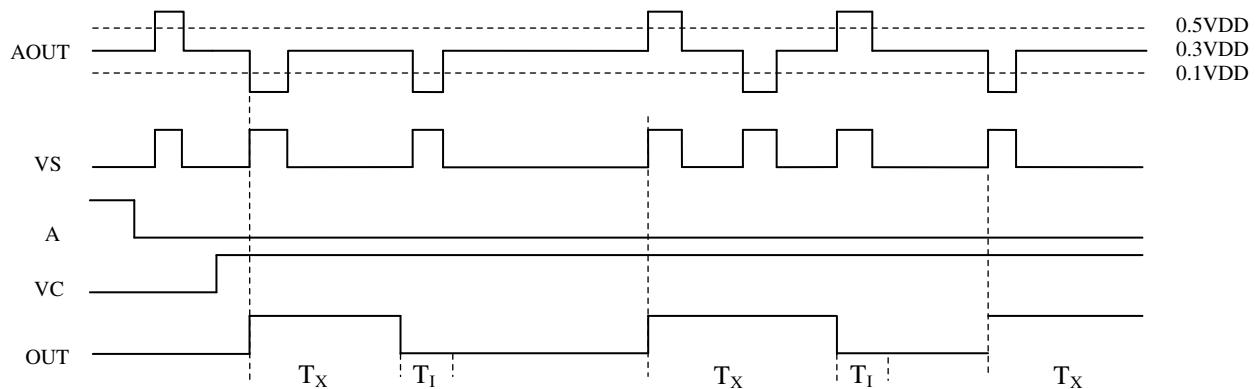

Fig3. Non-repetitive trigger
- When A = VSS, operating mode is set to non-repetitive trigger, any changes in VS are ignored during Tx time until the end of the Tx time. Explanation is following by fig.3.